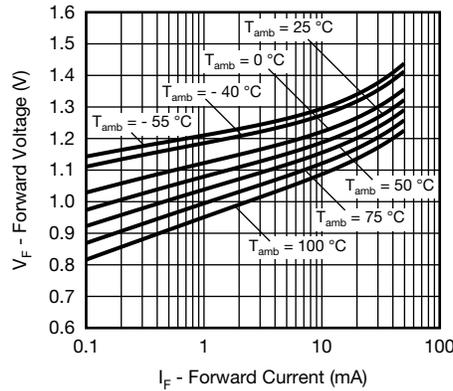

Fig. 1 - Forward Voltage vs. Forward Current
**A:** Optocoupler datasheets provide a variety of information and graphs which should be used to determine the correct operation point. From the graph depicting forward current  $I_F$  across forward voltage  $V_F$  of the emitting diode, it is possible to determine a typical value in case of a change in forward voltage or operating temperature. (fig. 1)